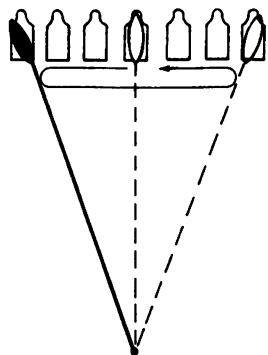

Figure 1.
a. Linear Targets. The gunner must engage the entire width of the target. He lays his gun on the center of mass, or portion of the target which presents the greatest threat. The gunner traverses his fire to either flank, then covers the remainder of the target (figure 1).